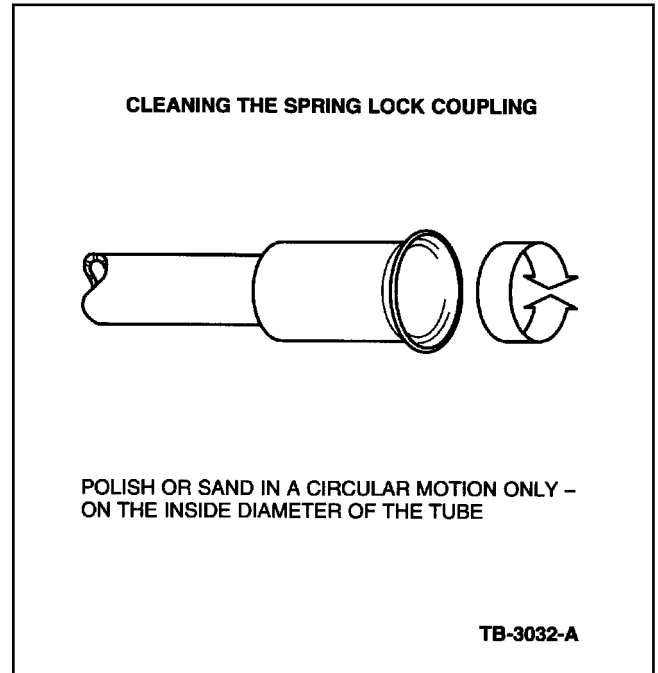

Figure 1 - Article 95-13-1
- b. Polish the female surface by using a twisting motion so that any scratches made will not cross the O-ring sealing surface. See Figure 1.